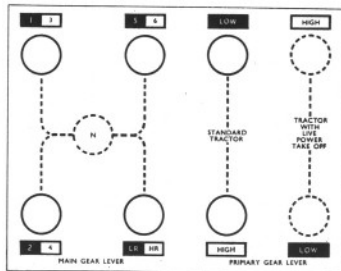

Fig. 7. Gear Lever Positions
2. Select the desired gear ratio by combining the positions of the primary gear lever and main gear lever in accordance with the positions shown in Fig. 7.